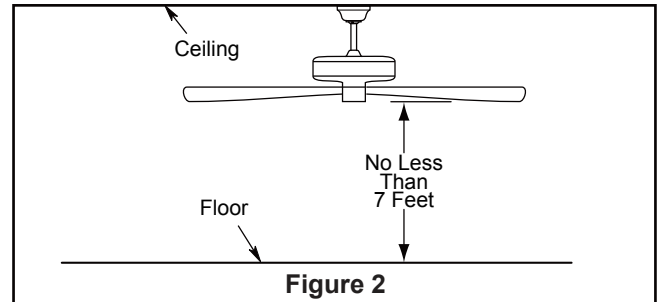

Figure 2
Deep box (Figure 2)
2. Remove the hairpin clip and clevis pin from the bottom of the downrod. Retain the pin and clip for reinstallation in Step 4. (Figure 2)
The fan must be hung with at least 7' of clearance from floor to blades. (Figure 2)
<p>To avoid possible electrical shock, be sure electricity is turned off at the main fuse box before wiring. (Figure 2)</p>